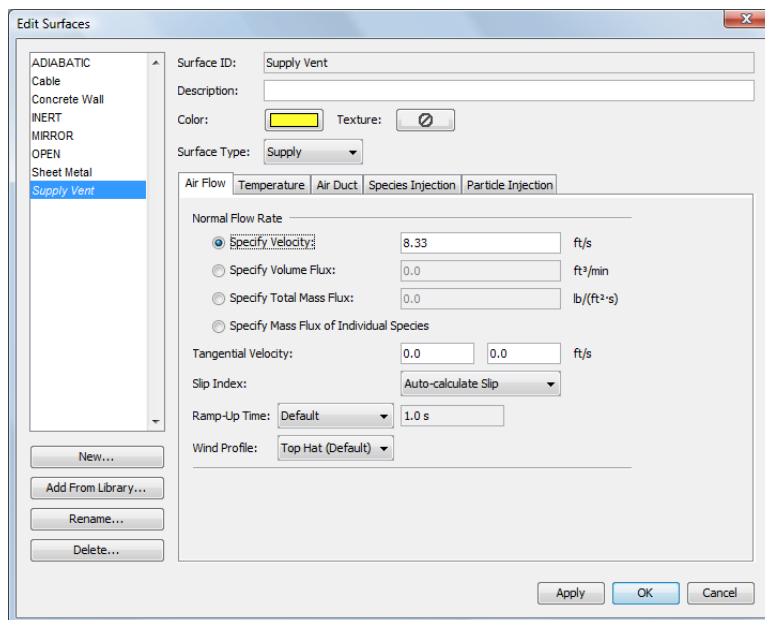

Figure 6.17. Creating the supply vent surface
3. On the **Air Flow** tab, click **Specify Velocity** and type `8.33 ft/s`, Figure 6.17. This corresponds to 2000 CFM flow through a 2'x2' duct.